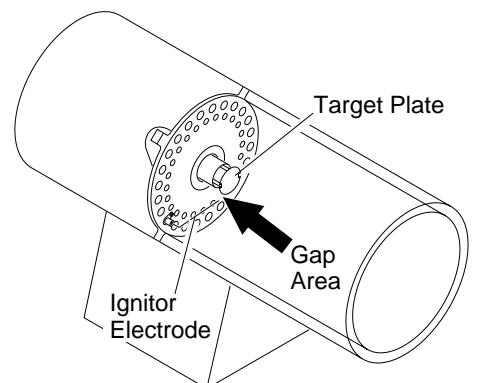

Figure 16 - Clearance between Ignitor Electrode and Target Plate
7. Set gap between ignitor electrode and target plate to 4.3 mm (.17 in) (see Figure 16).